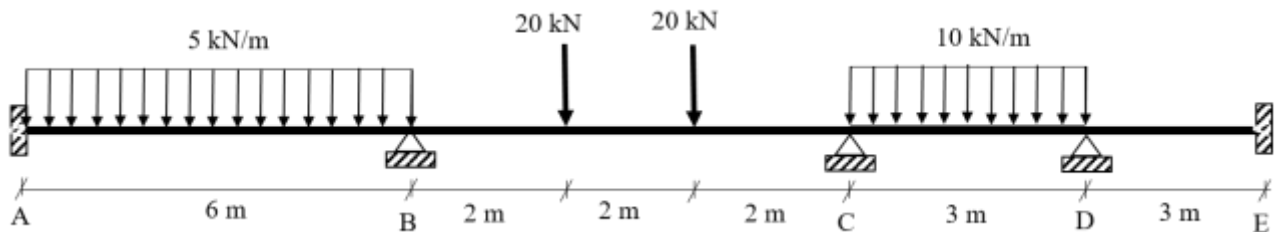

Figure 2
2. **Figure 2** shows a beam carrying a uniformly distributed load of 5 kN/m for span AB and 10 kN/m for span CD. Two additional point loads of 20 kN each act on span BC. Supports A and E are fixed, whereas supports B, C and D are pinned. EI is constant for the beam.